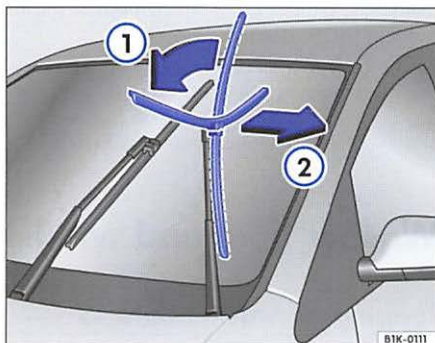

Fig. 11 Changing windshield wiper blades
- Turn the wiper blade in a counter-clockwise direction to the left ⇒ **fig. 11** ① and then pull it off ②.